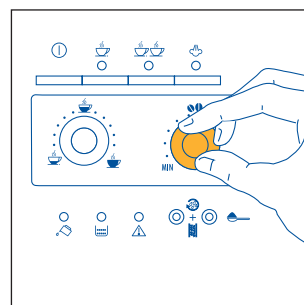
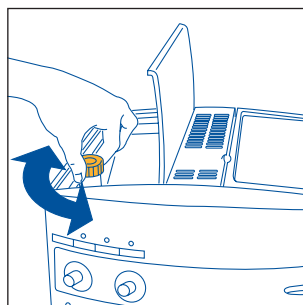

Fig.7
Fig.17
- 2) Adjust the right-hand knob (Fig. 7) to set the desired taste of the coffee. Turning the knob clockwise increases the quantity of coffee beans that the machine will grind, and thus makes the taste of the coffee stronger. When using the machine for the first time, the correct position of the knob can be found by trial and error. Make sure not to turn it too far clockwise, otherwise the coffee will be delivered too slowly (in drops), above all when preparing two cups of coffee.
NOTE 1 : *If the coffee is delivered a drop at a time or not at all, turn the grinding coarseness regulator (fig. 17) one click clockwise (see para. 6). Turn a click at a time until the coffee is delivered satisfactorily.*
NOTE 2: *If the coffee is delivered too fast and is not creamy enough, turn the right-hand knob (fig. 7) clockwise. Proceed by trial and error to find the correct position of the knob. Make sure not to turn the knob too far clockwise, otherwise the delivery may become too slow (in drops), above all when making two cups of coffee. If, after several coffees, the cream is still not satisfactory, also turn the grinding adjustment knob (Fig. 17) one click clockwise (see para. 6).*
To resolve this problem, re-set the grinding coarseness on the coffee grinder by adjusting the knob (Fig. 17) one click anticlockwise (as described in chap. 6).
Nonetheless, after having made the first coffees, if delivery is too fast or too slow (in drops), the grinding coarseness must be adjusted using the knob (Fig.17) located inside the bean container. Turning one click (one number) clockwise achieves faster delivery of the coffee (without drops).